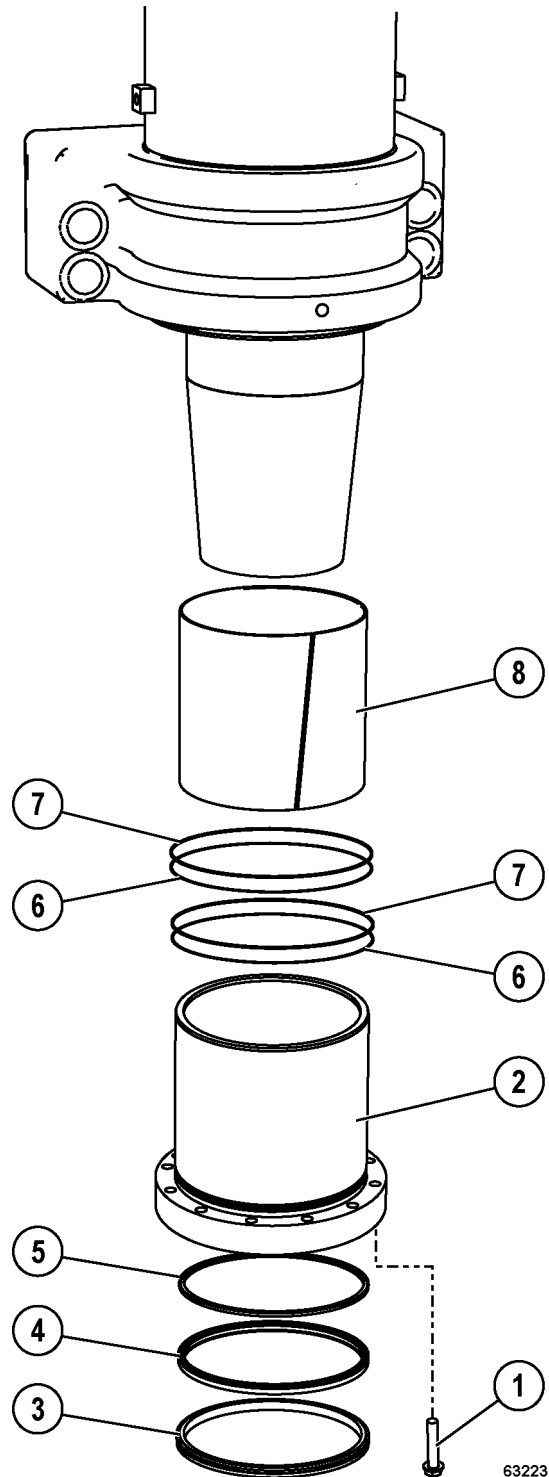

FIGURE 2-11. FRONT SUSPENSION
1. Remove lower bearing retainer capscrews and hardened washers (1, Figure 2-11). Install pusher bolts into the tapped holes in the retainer flange.
2. Tighten the pusher bolts evenly and prepare to support the bearing retainer as it exits the suspension housing. Remove lower bearing retainer (2).
3. Remove wiper seal (3), double lip seal (4), buffer seal (5), backup rings (6), O-rings (7) and lower bearing (8).
1. Install new buffer seal (5, Figure 2-11), double lip seal (4) and wiper seal (3).